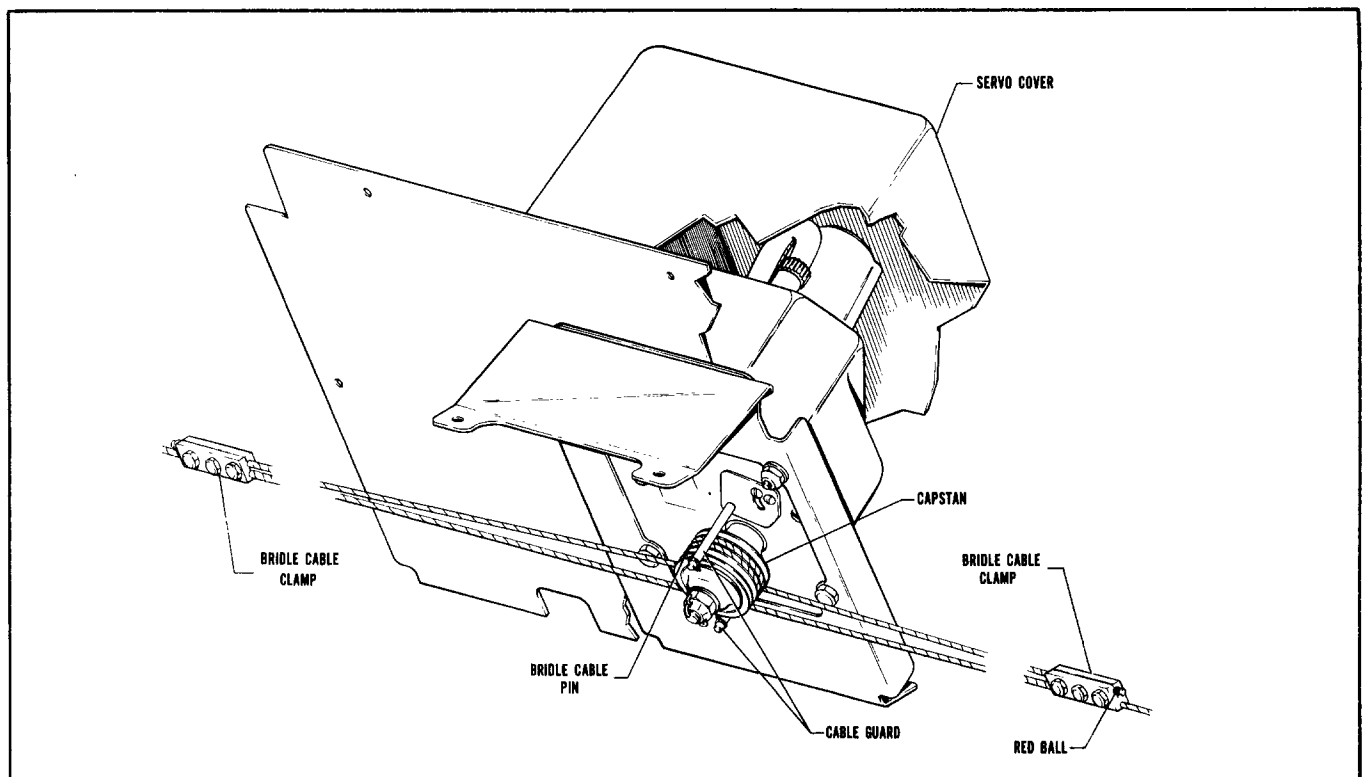

Figure 3-15. Roll Servo Installation, PA-23-250 (Six Place)
3-19. INSTALLATION OF ROLL SERVO. (PA-23-250 Six Place) E & F Models. (Refer to Figure 3-15.)
- f. REFER TO FIGURE 3-8 AND CHECK THAT CONTROL CABLE TENSION (Z) IS ADJUSTED TO 40 + 8 - 0 POUNDS PRIOR TO ATTACHING THE BRIDLE CABLE CLAMPS. Ascertain area on cable where clamp attaches is clean, dry and free of all lubricants and anti-corrosive additives. Attach the bridle cable to the aileron balance cable. The bridle cable is drawn to the balance cable and attached with clamps at the previously painted locations on the balance cable. The end of the bridle cable with the red ball extends toward the right side of the airplane. (Refer to Figure 3-15.) (Should the balance cable not be painted, position the control wheel in neutral and align the bridle cable pin, installed in the capstan, as shown in Figure 3-15.) Adjust the bridle cable clamps so the bridle cable tension (Y) is equal to the control cable tension between the bridle cable clamps (X) as shown in Figure 3-8 without increasing the control cable tension from the bridle cable clamps outward. At no time shall the bridle cable tension be greater than the control cable tension between the clamps. Adjusting the bridle cable tension will lower the control cable tension between the two bridle cable clamps. Torque the bridle cable clamp bolts to  $55 \pm 5$  inch-pounds.